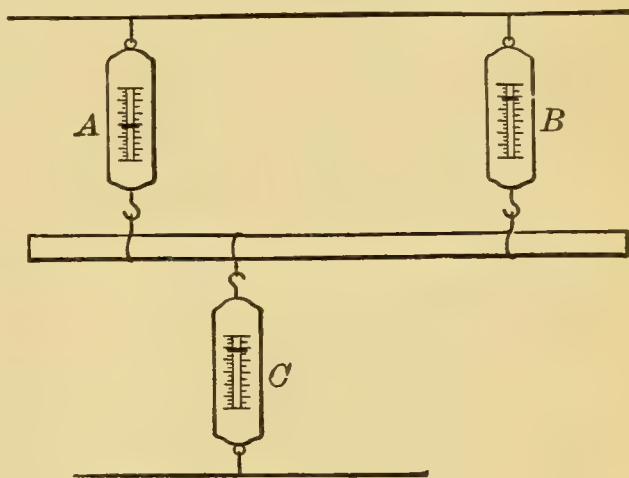

FIGURE 533.
EXPERIMENT 138. — Attach cords and spring scales to a meter stick, as shown in Figure 533. Draw the cords tightly enough to cause scale *C* to read nearly its maximum.
361. Moments. — In the preceding experiment, where three parallel forces acting on a body are in equilibrium, we have seen that translatory motion was impossible because the sum of the forces in one direction equaled the force in the opposite direction. If the stick is stationary, this will be true no matter how many parallel forces act on the bar. But it is also shown that the effectiveness of a force in rotating the stick depends upon the position of the force, as well as upon the amount of the force. The second condition of equilibrium of parallel forces is that the turning effects of the several forces must also be balanced. *The turning effect of a force is called the moment of the force; the moment of force is measured by the product of force \times force arm, the force arm being the perpendicular distance from the line of the force to the center of rotation (Figures 533 and 534).* According to the law of moments, when a body is in equilibrium, the sum of the moments of force tending to rotate the body in a clockwise direction must equal the sum of the moments tending to rotate the body in a counterclockwise direction. Referring again to the preceding experiment (138), it is seen that if C is taken as a center of rotation, or *fulcrum*, the moment of A about C (clockwise) equals the moment of B about C (counterclockwise). Any point on the stick may be considered as a fulcrum and the law still holds good; or any number of forces may act on the body without causing a departure from this principle.